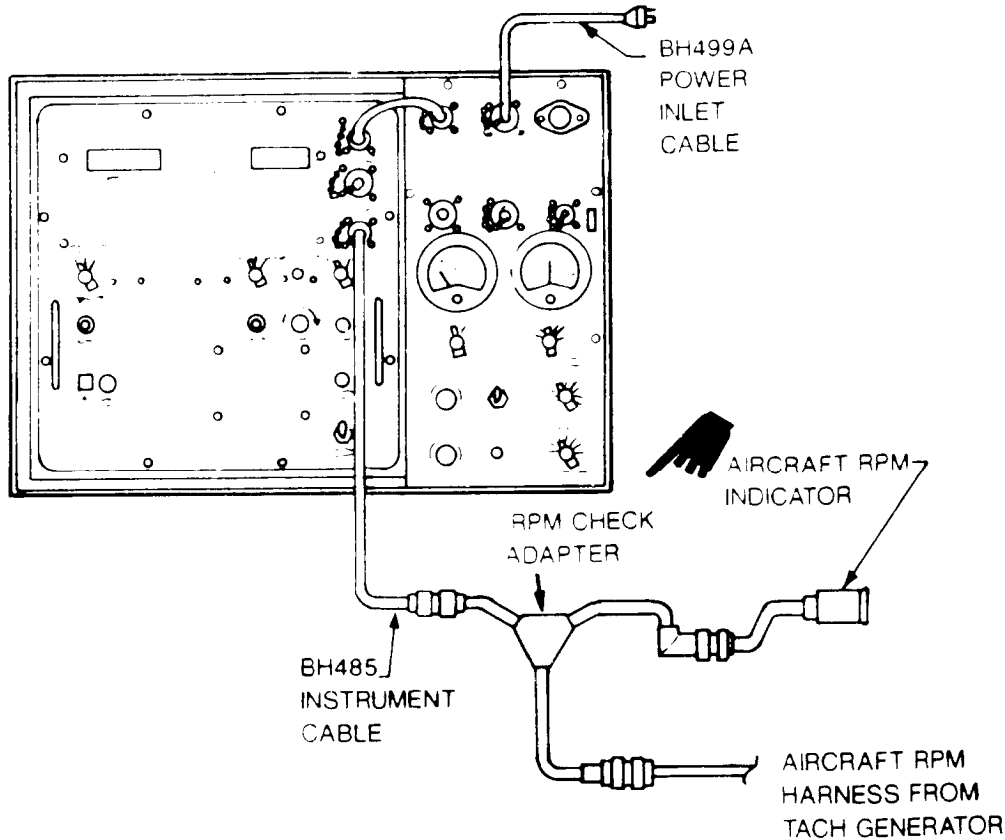

Figure 2-12. RPM Indicator Check Setup
2-7. RPM Indicator Check. In the rpm indicator check, engine rpm is read simultaneously on the tester and the cockpit indicators during engine run. The two readings are compared to determine the rpm system error. Refer to figure 2-12 and proceed as follows:
c. Disconnect aircraft rpm circuit either at rpm indicator or tachometer generator (depending on type of rpm check adapter used) and insert rpm check adapter as shown in figure 2-12.